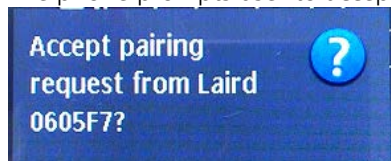

Figure 64: Accept pairing
- The phone prompts user to accept the pairing request (Figure 64).